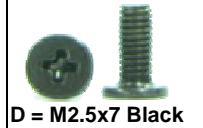

Fig. 26 Removing the LCD Bezel
3. Release the LCD Bezel from the side carefully and put it aside as shown in Fig. 26